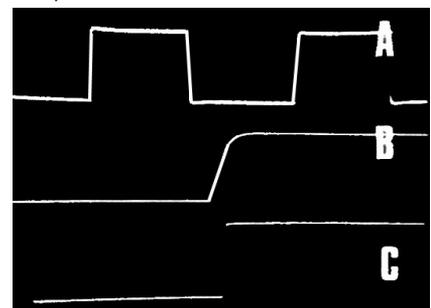

Fig. 14 (A). Appears to be a good square-wave with a fast leading edge. (B) reveals it is not so fast (several μ sec) whereas (B) has a rise time of 1 μ sec.
Square-wave testing is popular with audio engineers as a ready means of estimating, among other things, the frequency response performance of amplifiers including tone controls, filters etc. A uniform square-wave with a rise time over 10% to 90% of the leading edge of about 1μs is essential. This can be checked by using the 'scope calibration as already outlined. Don't accept what appears to be nice looking square-wave as in Fig.14 (A) because the leading edge looks fast.
Opened out, it appears as in Fig. 14 (B) and the rise-time is several microseconds, whereas (C) has a rise-time of better than 1μs. We cannot delve too far into the interpretation of square-wave displays as this could warrant a whole article in itself but instead give some general examples, with the aid of oscillograms, of how amplifier performance can be estimated just by looking at the display. These are shown in Figs. 15, 16 and 17 and the captions explain. Further information on the subject will be found in the references given at the end of this article.